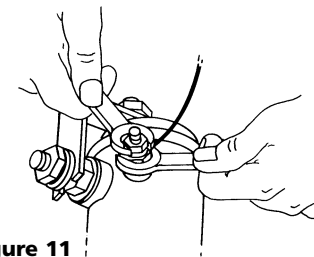

Figure 11
*When attaching wires to the motor terminals and solenoids (relays), hold the inner nut when tightening the outer nut. Do not allow the motor terminals to rotate for it may cause internal wire breakage or part misalignment. Be especially careful in preventing the solenoid (relay) terminals from rotating. Any rotation can damage the solenoid (see Figure 11).*